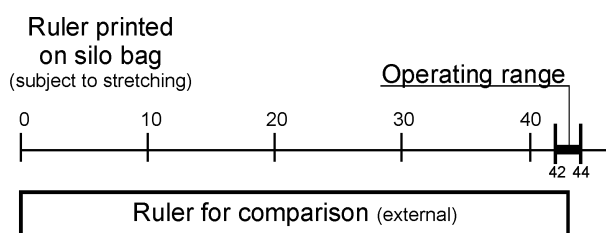

Figure 21 – Ruler printed on the silo bag
1) The machine's braking force is directly related to the resulting tension in the silo bag: the pressure on the brakes should be adjusted so as to make the best use of the silo bag's storage capacity, i.e. to apply the greatest possible tension to the silo bag material according to the manufacturer's provisions. As shown in Figure 21, most silo bags have some kind of ruler or indication printed on their surface that can be matched with a measurement template supplied by the manufacturer in order to determine the degree of tension on the plastic material.